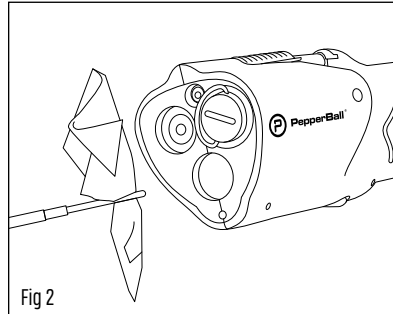

Fig 2
4. Rotate launcher around and repeat process by inserting a damp swab into the barrel of the launcher in a rotating motion. Dispose of contaminated swabs. (Fig 2)